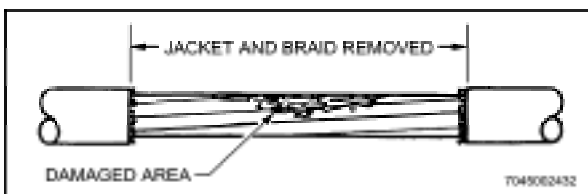

Figure 5-18 Damaged Multi-conductor Cable
- f. Using small scissors or diagonal cutter, remove shield, taking care not to damage underlying wire insulation (Figure 5-18).